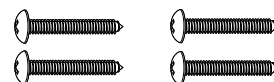

Figure 11
5. Secure the drawer with the 4 screws. See Figure 11.